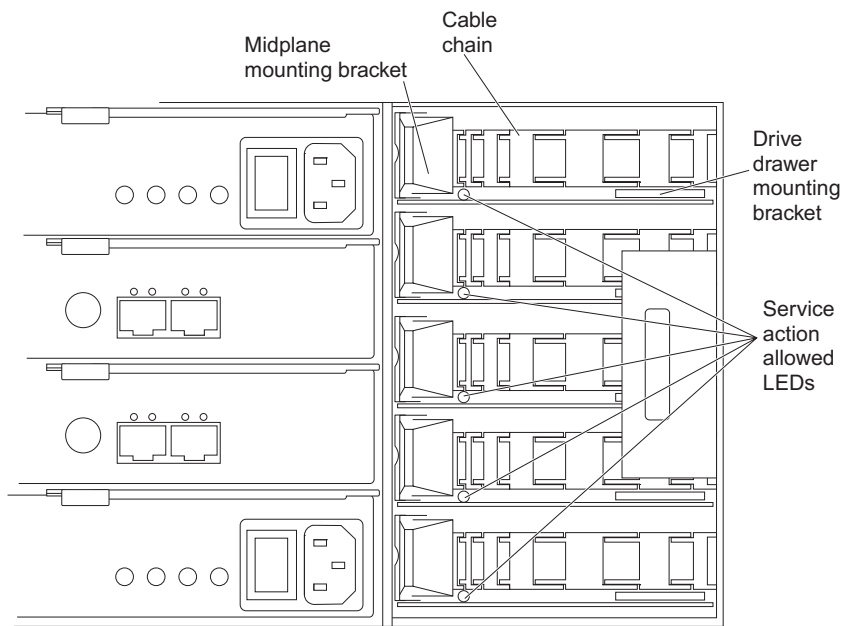

Figure 85. Rear view of the storage expansion enclosure with the right fan assembly removed
- a. At the rear of the drive enclosure, remove the right fan assembly. See “Replacing a fan assembly” on page 121 for the steps to remove a fan assembly. Figure 85 on page 124 shows the area with the fan assembly removed.